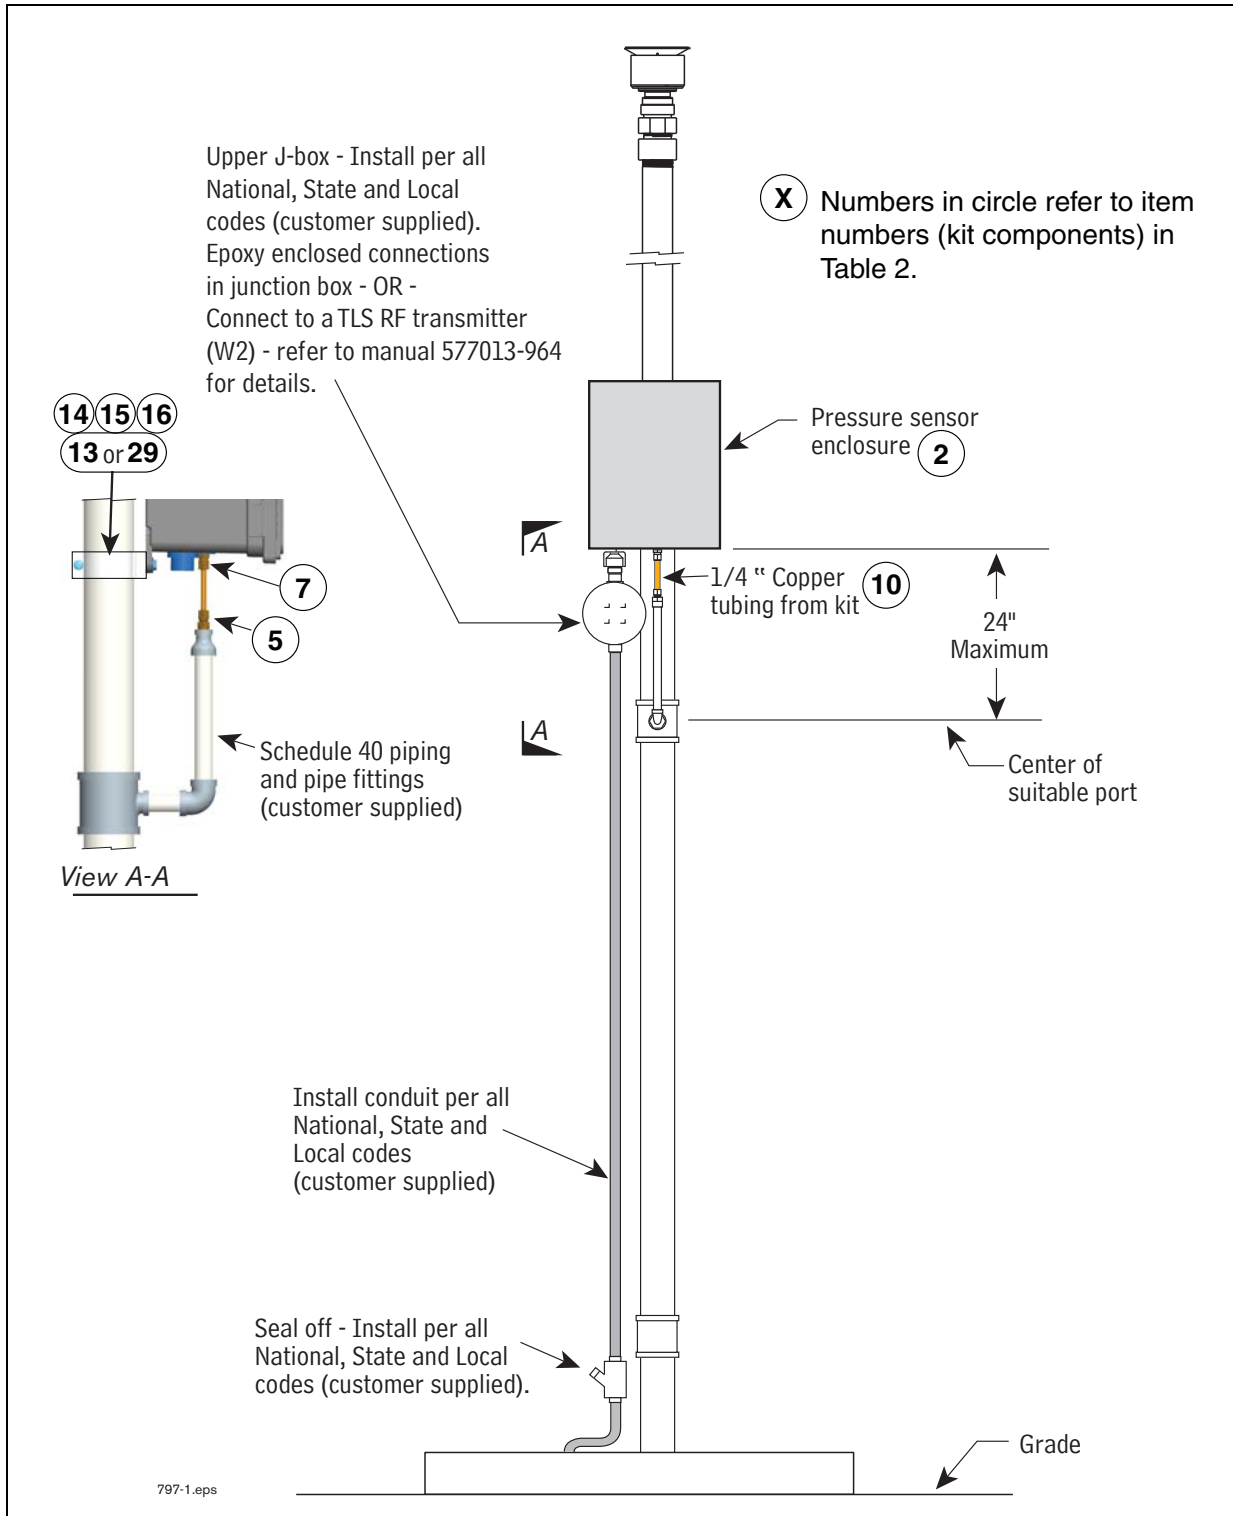

Figure 6. Locating Pressure Sensor Enclosure in Vapor Vent Stack
3. Locate a suitable port in an existing Schedule 40 piping fitting (tee, cross, etc.) or plumb a suitable Schedule 40 pipe fitting (tee, cross, etc.) into the vapor vent stack line (maximum length of copper tubing limited by dimension in Figure 6).
18. Mount the plastic enclosure onto the vapor vent stack or suitable rigid structure ABOVE the vapor vent stack port using two conduit clamps (for 2" or 3" pipe), bolts, nuts, and washers included, or use other customer supplied suitable mounting hardware (Example: Unistrut®). Leave the mounting hardware somewhat loose for later enclosure height adjustment (see Figure 6).
20. Install one 68CA-4-4 male connector (item 1 in Table 3) onto the top of the new pipe (see View A-A, Figure 6).
21. Measure, fabricate, and install 1/4" OD copper tubing (item 6 in Table 3) between the bulkhead union and the male connector. Adjust the enclosure vertically on vent pipe to make sure the copper tube is fully inserted into the bulk head union and male connector.
25. When direct wiring to a TLS console, install 1/2" electrical conduit from the conduit hub in the bottom of the enclosure to the customer supplied weather-proof junction box (see Figure 6). For wireless installations, using the TLS RF, Steps 23 - 27 are not required.
26. Route the cable from the pressure sensor to the junction box under the enclosure. Observing polarity, connect the sensor wiring to the field wiring from console and cap with wire nuts (see Figure 6).